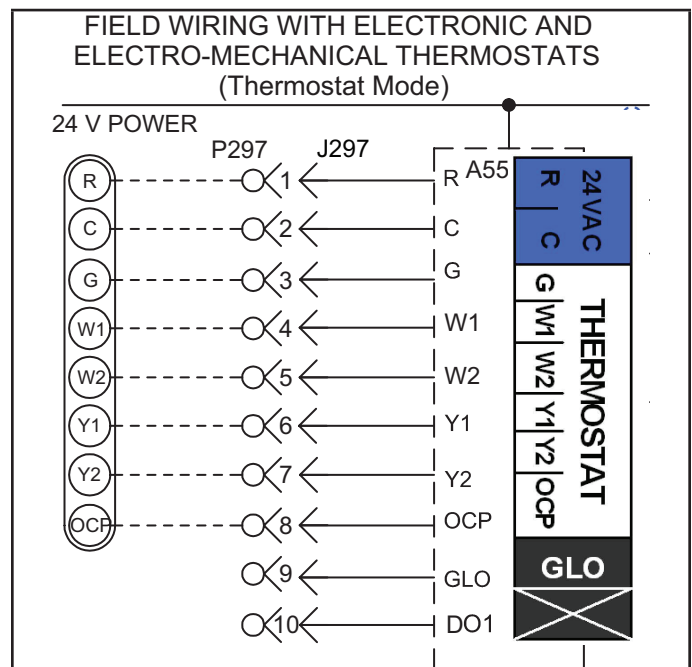
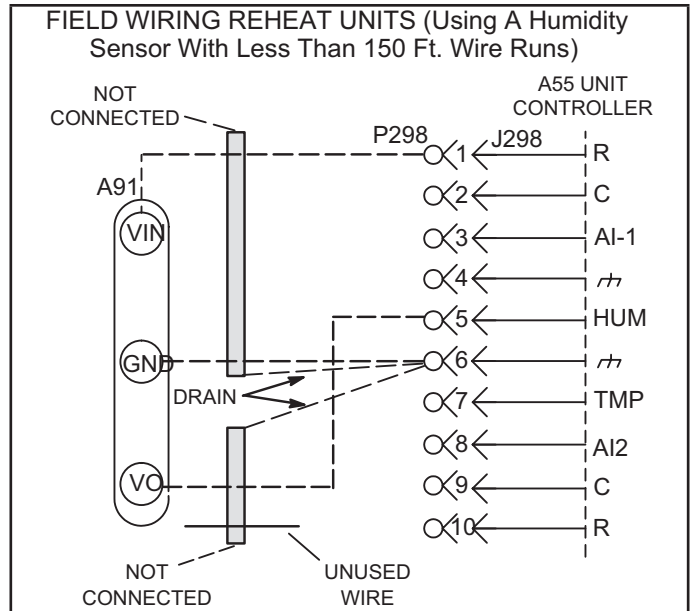

FIGURE 8
FIGURE 10
The Unit Controller will operate two stages of heating and cooling based on thermostat demands. Install thermostat assembly in accordance with instructions provided with thermostat. See FIGURE 8 for field wiring and refer to wiring diagrams on unit.
- 2 - Make wiring connections as shown in FIGURE 8 for Thermostat Mode and figure 10 for Zone Sensor Mode. In addition, connect either a humidity sensor or a dehumidification input. See FIGURE 10 or FIGURE 11 for humidity sensor wiring and FIGURE 12 for dehumidification input wiring.
Use two separate shielded cables containing 20AWG minimum, twisted pair conductors with overall shield. Belden type 8762 or 88760 (plenum) or equivalent. Connect both cable shield drain wires to TB1-7 as shown in FIGURE 10.
Use two separate shielded cables containing 18AWG minimum, twisted pair conductors with overall shield. Belden type 8760 or 88760 (plenum) or equivalent. Connect both cable shield drain wires to TB1-7 as shown in FIGURE 10.